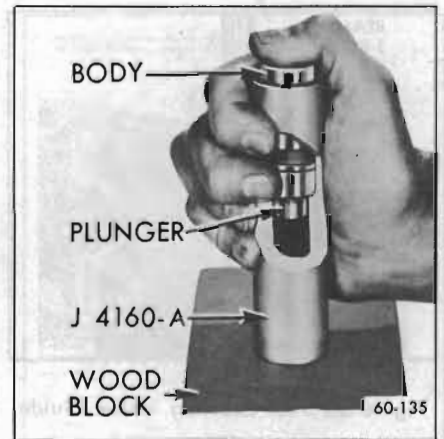

Figure 60-320—Removing Stuck Plunger with J-4160-A
5. If a plunger sticks in lifter body place lifter in large end of Plunger Remover J-4160-A, with plunger inward. While holding lifter with thumb, rap the open end of remover against a block of wood with just enough force to jar the plunger from body. See Figure 60-320.